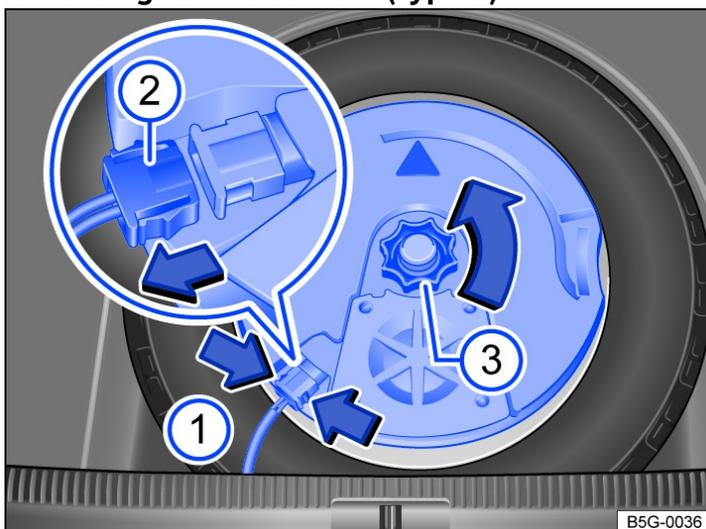

Fig. 1 In the luggage compartment: removing subwoofer (type 1).
2. To release the connector → Fig. 1 (2), press the lugs together → Fig. 1 (arrows 1).
3. Pull off the connector → Fig. 1 (2) as shown by the arrow, and place the disconnected electrical cable to one side.
4. Unscrew handwheel → Fig. 1 (3) in the direction of the arrow.